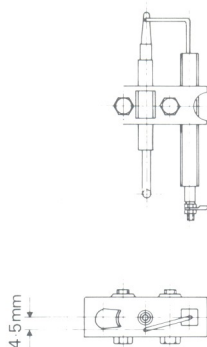

Fig. 4a. Position of spark electrode relative to pilot shield (P 50).
2. **Models P 50 and P 70 Only.** Unscrew the six M6 set-screws holding the burner tray to the Outer Burner Box assembly and check the position of the spark electrode relative to the pilot shield and that it conforms to the position shown in fig. 4a.